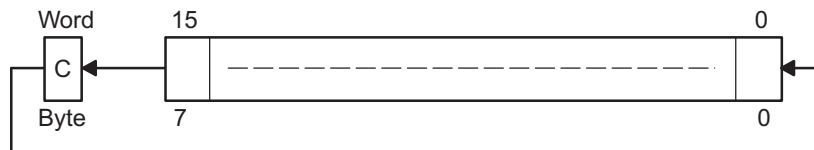

Figure 3-16. Destination Operand - Carry Left Shift
Description The destination operand is shifted left one position as shown in Figure 3-16. The carry bit (C) is shifted into the LSB and the MSB is shifted into the carry bit (C).